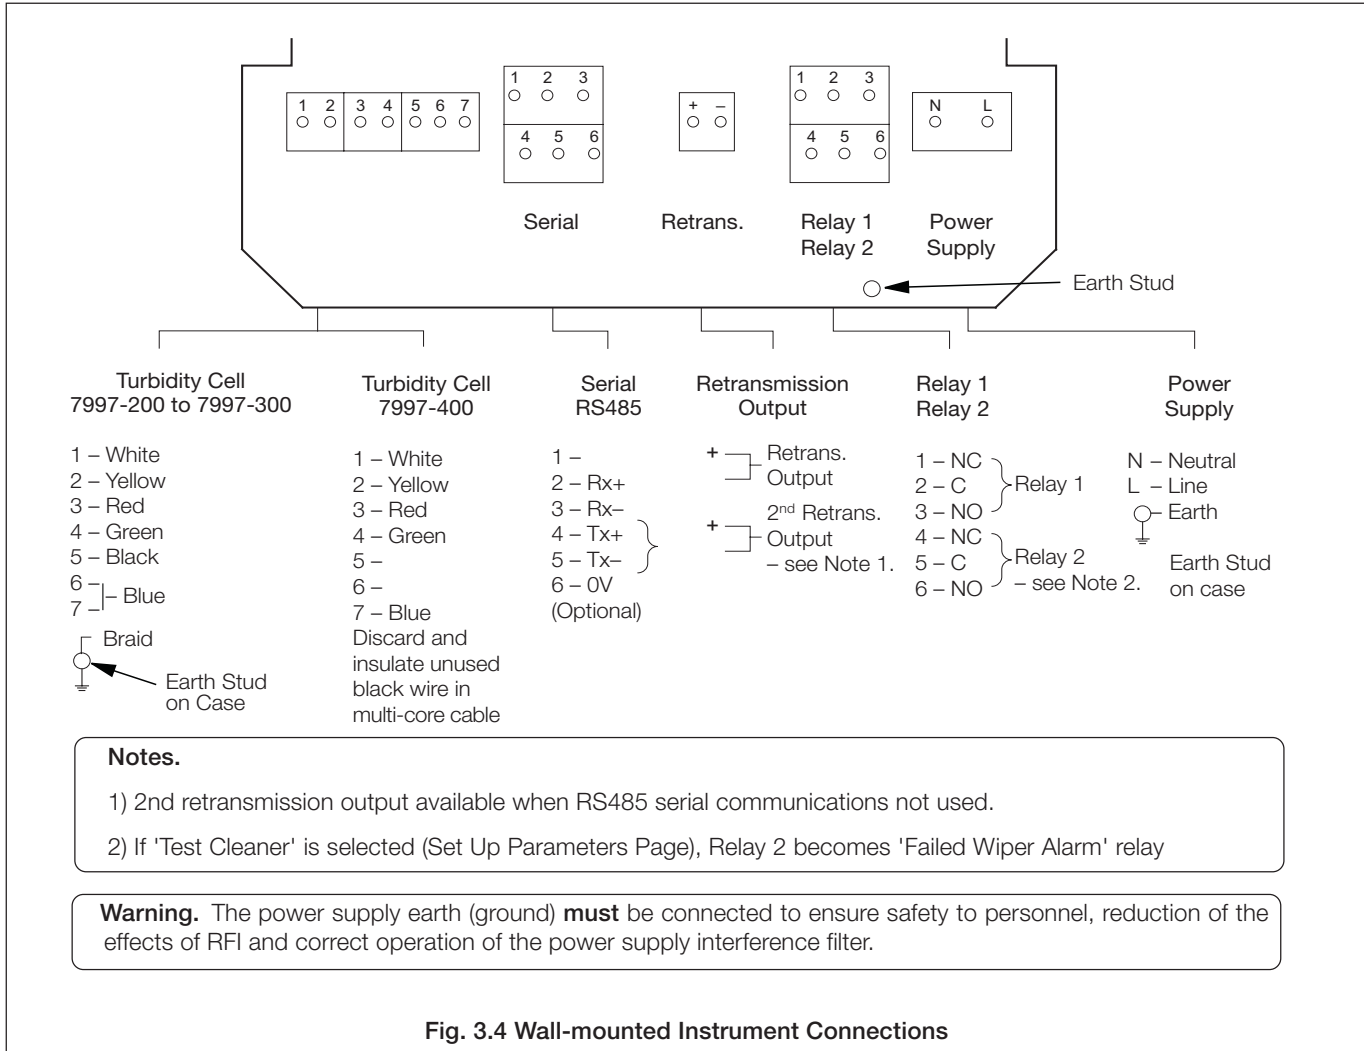

Fig. 3.4 Wall-mounted Instrument Connections
3.3 Wall-mounted Instrument Connections – Fig. 3.4 and Table 3.1